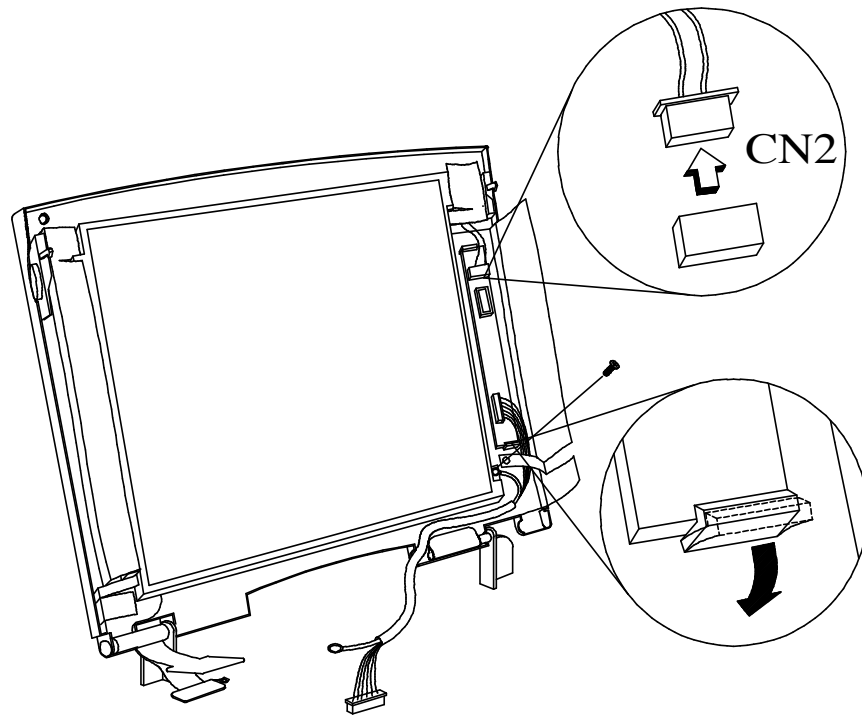

Figure 6-24 Removing/Replacing the Display Inverter Boards
5. Press down on the latch (refer to Figure 6-24) and remove the Inverter Boards.